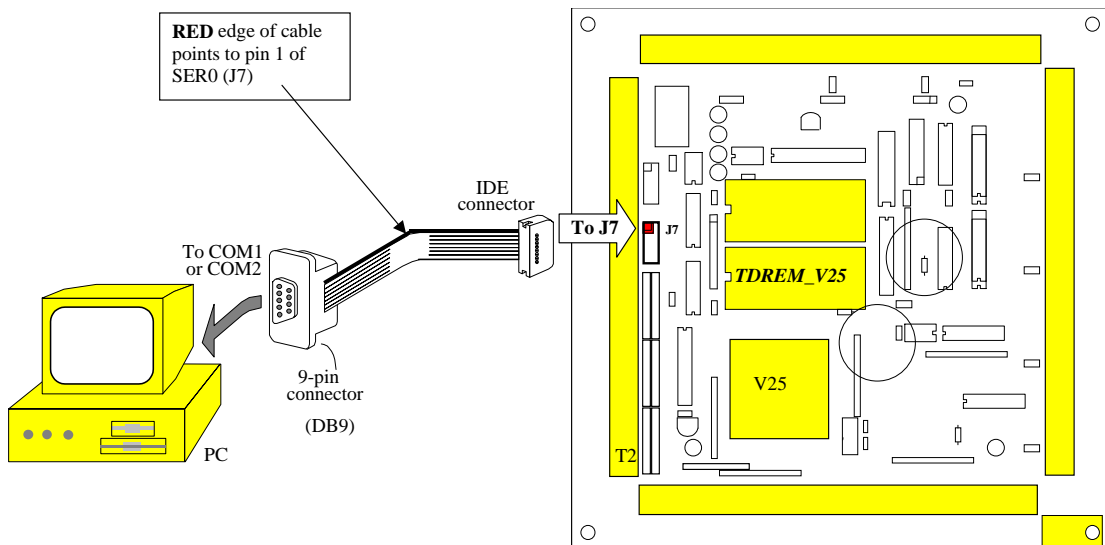

Figure 2.1 Connecting the DataWatch to the PC
The following diagram (Figure 2.1) illustrates the connection between the DataWatch and the PC. The DataWatch is linked to the PC via a serial cable (PC-V25).
- Connect the 9V wall transformer plug in to the Vin socket (figure 2.1).